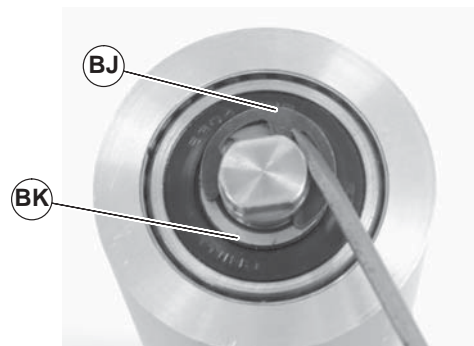

Figure 75
5. Remove the pulley shaft assembly: remove the clip ring (Figure 75, item BJ) and washer (BK) from one side of the pulley assembly.